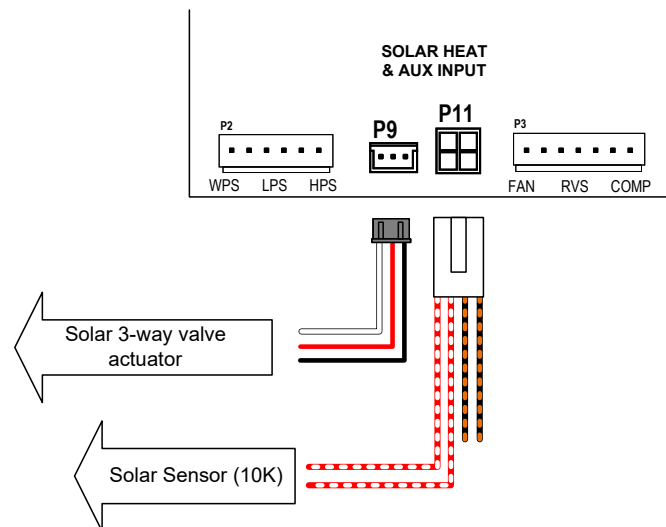

Figure 157. Solar Heat & Auxiliary Input
5. Inside the control box of the heater, connect the wires for the "Solar sensor" to the control board terminal labeled as "SOLAR" [P11] using the harness adapter labeled as "Solar Temperature Sensor / Auxiliary Safety Input" provided in the accessories bag. Connect the Red with White wires for a 10K temperature sensor and use the terminal [P9] to connect a standard 3-way valve actuator for the "Solar 3-way valve". Refer to **Figure 157** for details.